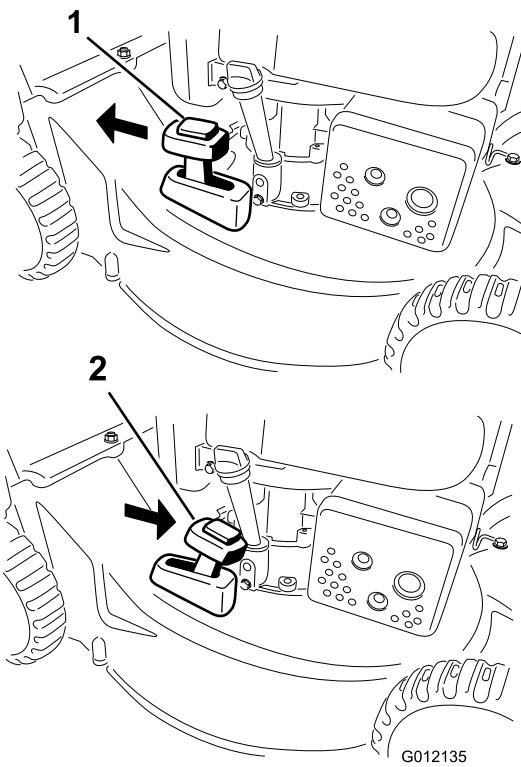

Figure 18
To recycle the clippings, move the bag-on-demand lever to the RECYCLING position (Figure 18).
2. Install the grass bag; refer to Installing the Grass Bag \(page 11\) and move the bag-on-demand lever to the BAGGING position as shown in Figure 18.
Note: If the grass bag is on the machine, remove it before rear-discharging the clippings; refer to Removing the Grass Bag \(page 11\). The bag-on-demand lever should be in the BAGGING position as shown in Figure 18.